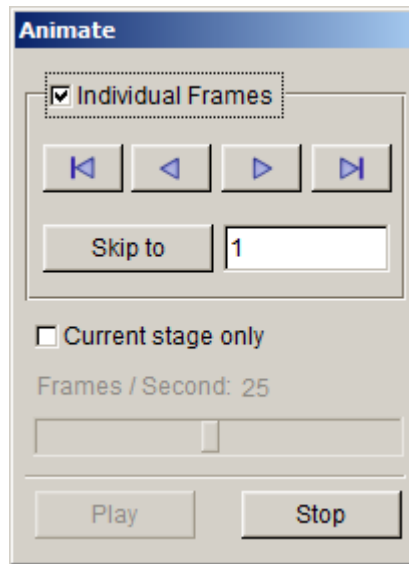

Figure 1.28 Animate dialog box
3. The user can select the **Individual Frames** option from the Animate dialog box illustrated in Figure 1.28 to display the incremental tool movement. Click  icon to display the tool movement step by step.